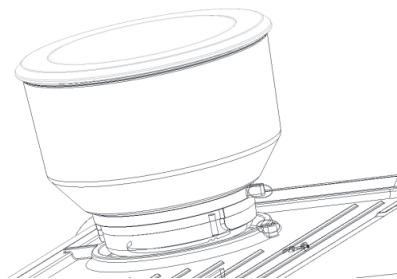

Fig. 2
- Align the pin on the base of the bean hopper (2) with the safety slot on the back of the grinding chamber (4) (**Fig. 2**), push the bean hopper down and turn it clockwise (towards ) until it clicks into a grind setting between "0" and "30" to lock it securely into the grinder.